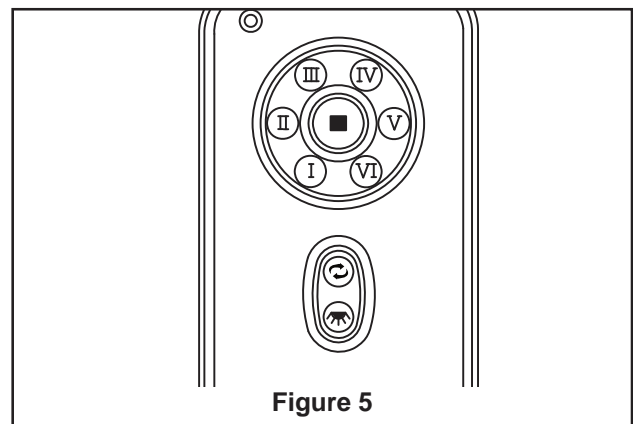

Figure 5
7. The remote buttons instruct as below: (Figure 5)